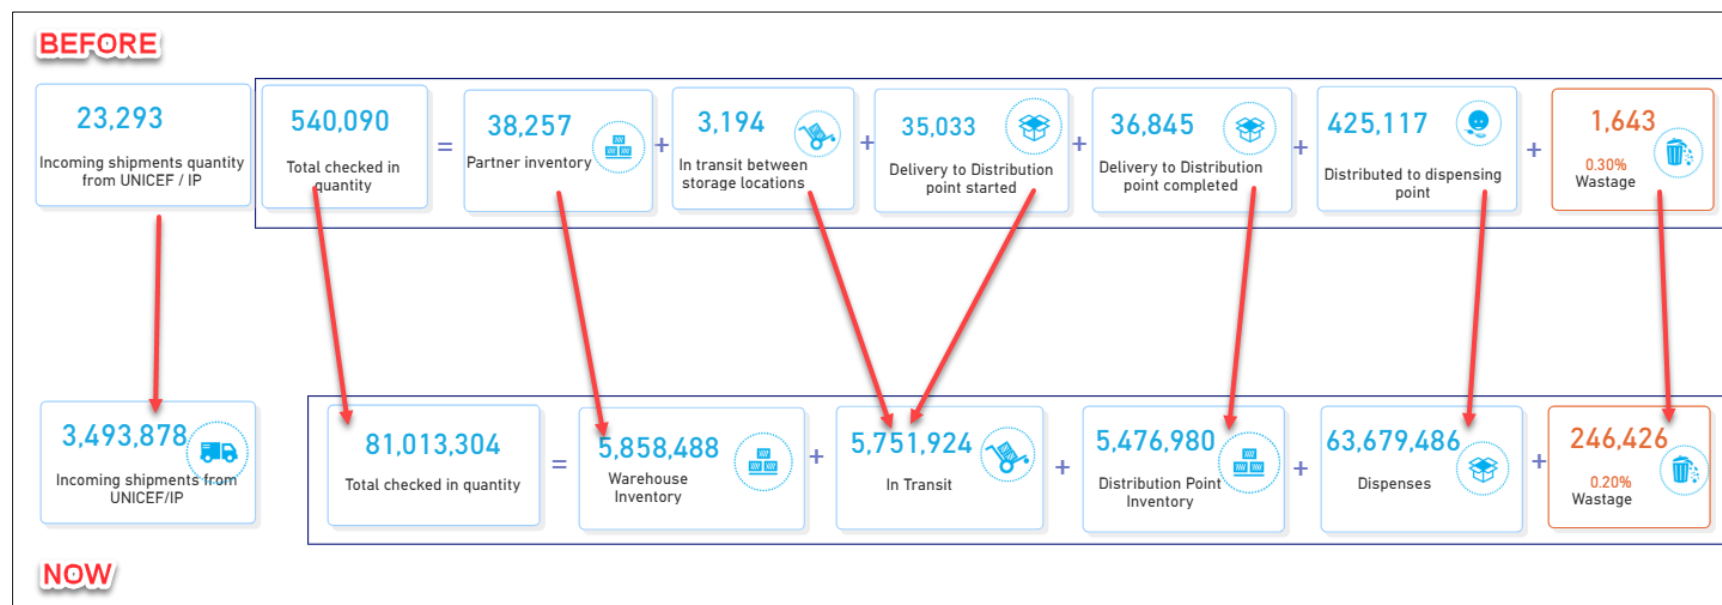

Fig 8: Before-After, pages consolidation and renaming
- 4.1 **Incoming shipments from UNICEF/IP**, **Total checked in quantity**, and **Wastage** pages remain the same. (Fig 8)
- 4.2 **Partner Inventory** is renamed to **Warehouse Inventory**. (Fig 8)
- 4.3 **In transit between storage locations** and **Delivery to Distribution point started** are consolidated to form a single “**In Transit**” card. Both of these show supplies moving from one storage location to another storage location or distribution point. (Fig 8)
- 4.4 **Delivery to distribution point completed** is renamed to **Distribution Point Inventory**. This card shows supplies available in distribution point storage locations. (Fig 8)
- 4.5 **Distribution to dispensing point** is renamed as **Dispenses**. (Fig 8)